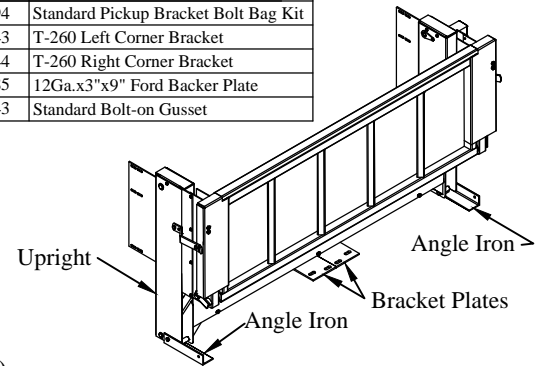

Figure 3: Complete liftgate.
4. Unbolt and Save the two (2) angle irons attached to the liftgate uprights (Figure 3).
5. Remove and Save the two (2) bracket plates attached to the liftgate (Figure 3).